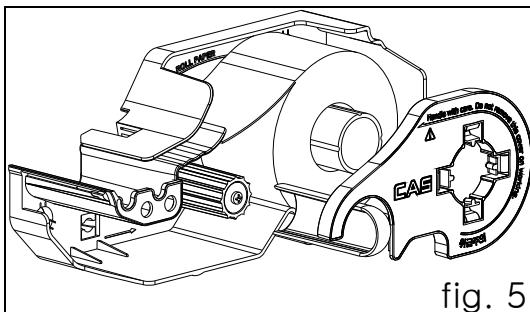

fig. 5
5) Place the label in the scale as fig. 5